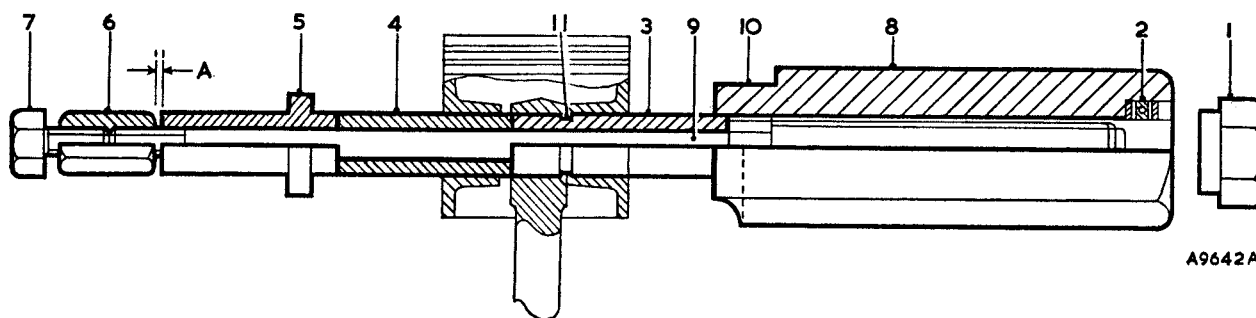

Fig. Aa.5
- (13) Remove the large nut (1) of Service tool 18G 1002, and pull the centre screw out a few inches as shown in Fig. Aa.5.
- (14) Slide the parallel sleeve (3), longest length diameter portion first, on to the centre screw up to the shoulder.
- (15) Place the piston on the connecting rod small end up to the undercut (11).
- (16) Smear the gudgeon pin with thin oil and slide it over the centre screw and into the piston bore up to the face of the connecting rod.
- (17) Slide the remover/replacer brush, short spigot towards the gudgeon pin, on to the centre screw.
- (18) Screw the stop nut (6) onto the centre screw, adjust the nut to give $\frac{1}{32}$ in. (.8 mm.) end-play, and lock the nut securely in position with the lock screw (7).